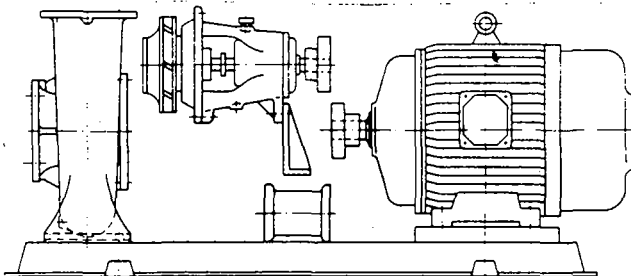

Fig. 14: Unit with intermediate sleeve coupling
4.1 When dismantling the unit, the volute (102) can remain on the base plate and attached to the pipework. In the case of units with intermediate sleeve couplings, the prime mover also remains fixed to the base plate (cf. fig. 14). Only the intermediate sleeve of the coupling is removed. Where installed, cooling or sealing liquid tubes are detached.